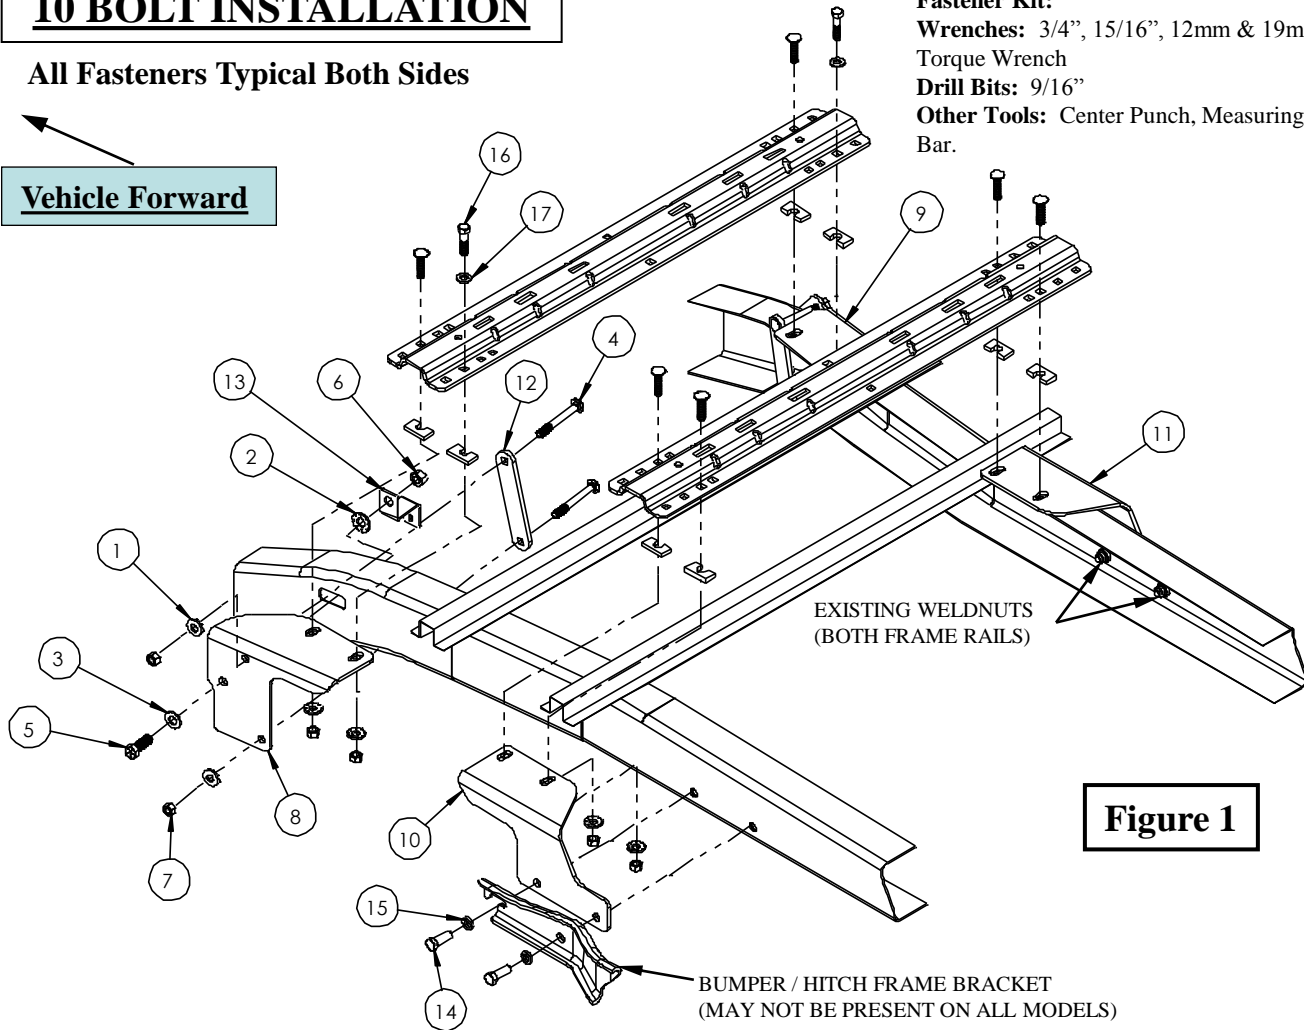

Figure 1
When installing to Figure 1 & 3, during drilling protect the fuel tank and filler tubes, brake lines and wire harness by placing a piece of metal between the box floor and potential components at risk on the driver's side. This will prevent drilling into these items.
2. For the driver's side front bracket placement, remove the nut on the outside of the frame that supports the existing electrical box. Will Reposition later: The electrical box using the provided S bracket and original frame fasteners to create additional space for the driver's side bracket strap. See Figure 1.
7. Check that the 1/8" inch drilled holes align with the slots of the rear frames brackets (10) and (11).
10. Install the 1/2" x 2" carriage bolts with the U-shaped spacer to be located in the corrugation between the box and the mounting rail or between box and frame bracket (10) & (11). This insures a metal to metal contact and to prevent crushing the bed corrugation. Attach with spacers, washers, and hex nuts as per Figure 1 and tighten snug to keep the mounting rail from moving.
13. Rotate the driver's side (8) and passenger's side (9) front brackets into place on the outside of the driver's side frame rail, such that the top and bottom bolt holes maintain clearance on top and bottom of the frame, while the middle hole aligns with the existing frame slot. Placing the top of the bracket against the bottom of the truck bed. Check that the 1/8 inch drilled holes align with the slots of the front frames brackets (8).
- Insert one 1/2" x 5 1/2" carriage bolt (4) through each square hole on a bracket strap (12) such that the bolt slides snugly into position.
- Starting with the front mounting hole first on the driver's side, position the strap (12) and bolts (4) on the inside of the frame such that the bolts slide through the top and bottom strap holes on the bracket.
- Install the 1/2" conical washer (1) and 1/2" nut (7). (hand tighten only)
- Install the 5/8" x 1 3/4" bolt (5) with flat washer (3) through frame brackets (8)(9) and frame, install 5/8" washer conical (2), S bracket (13) (drivers side only) and 5/8" nut (6). (hand tighten only)
17. Install the 1/2" x 2" carriage bolts with the U-shaped spacer to be located in the corrugation between the box and the mounting rail or between box and frame bracket (8) & (9). This insures a metal to metal contact and to prevent crushing the bed corrugation. Attach with spacers, washers, and hex nuts as per Figure 1 and tighten snug to keep the mounting rail from moving. **Note:** Use 1/2" hex head bolt (16) with flat washer (17) instead of 1/2" x 2" carriage bolts see Figure 1 and 3.